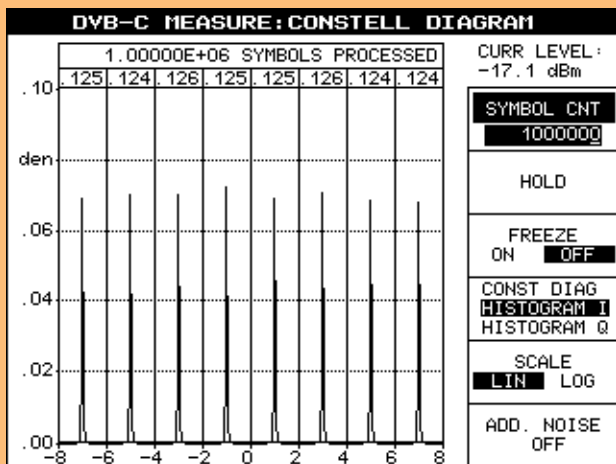

Fig. 3: Histogram I
- ◆ Histogram I (Fig. 3) and Q (Fig. 4) with user-selectable number of symbols to be displayed, range: 1 to 999 999 999 symbols